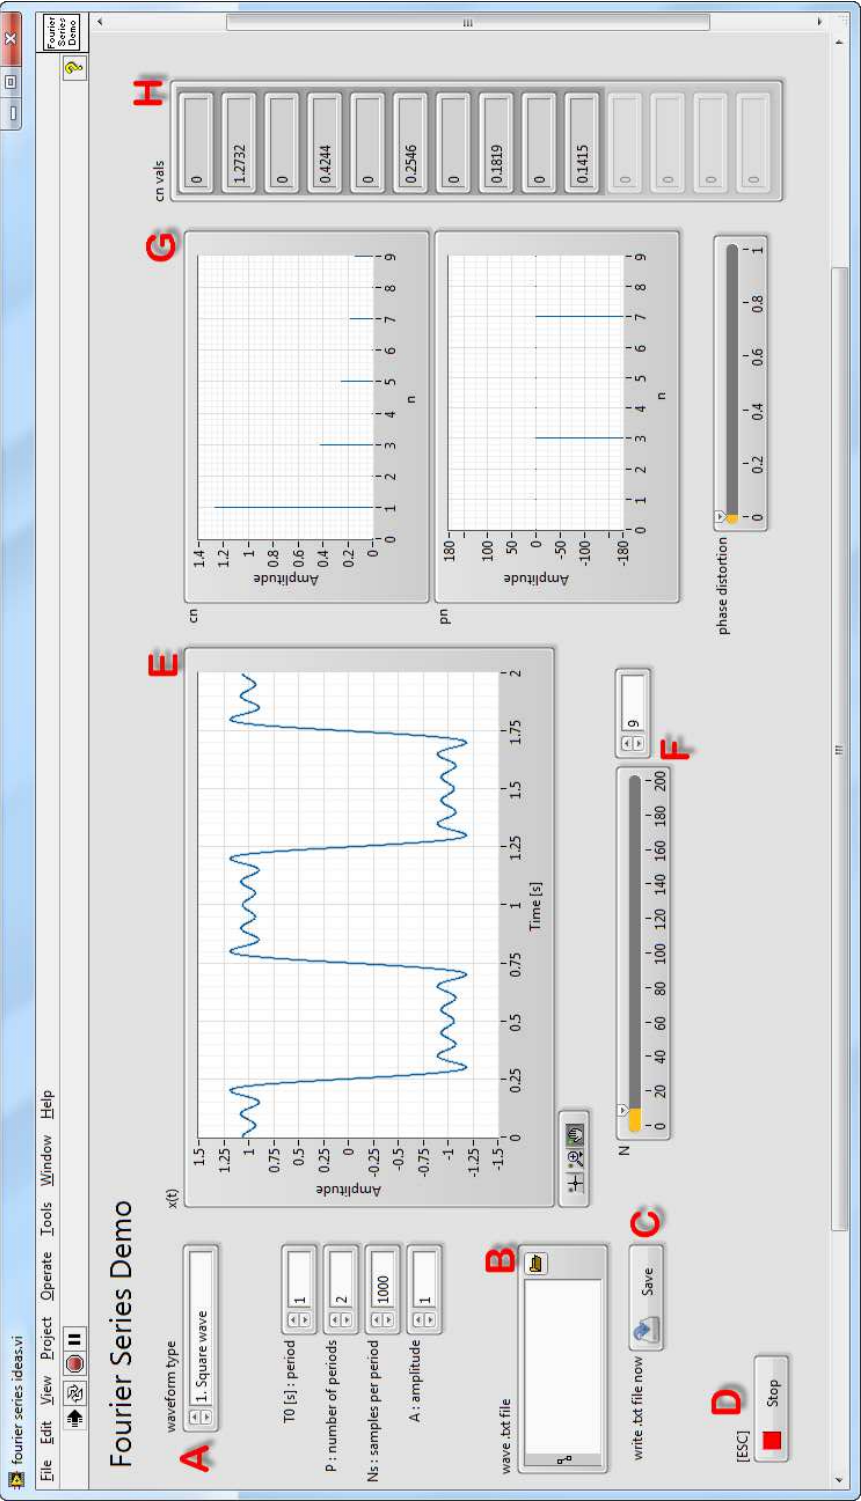

Figure 5.1: Front panel of the Fourier series demonstrator application.
Figure 5.1 on page 50 shows the front panel of the Fourier series demonstrator LabVIEW application you will create in this project. The application
► Read through these construction tips for the front panel and then refer back to this step as needed while you construct the application; each tip refers to the letter indicator on Figure 5.1 on page 50:
- Create the front panel and block diagram as pictured in Figures 5.1 on page 50 and 5.2 on page 51.
Experiment with your Fourier series demonstrator application to gain experience with the following concepts. Set the front panel control values to match those pictured in Figure 5.1 on page 50.
- ▶ Set up your Fourier series demonstrator front panel controls to match those pictured in Figure 5.1 on page 50.